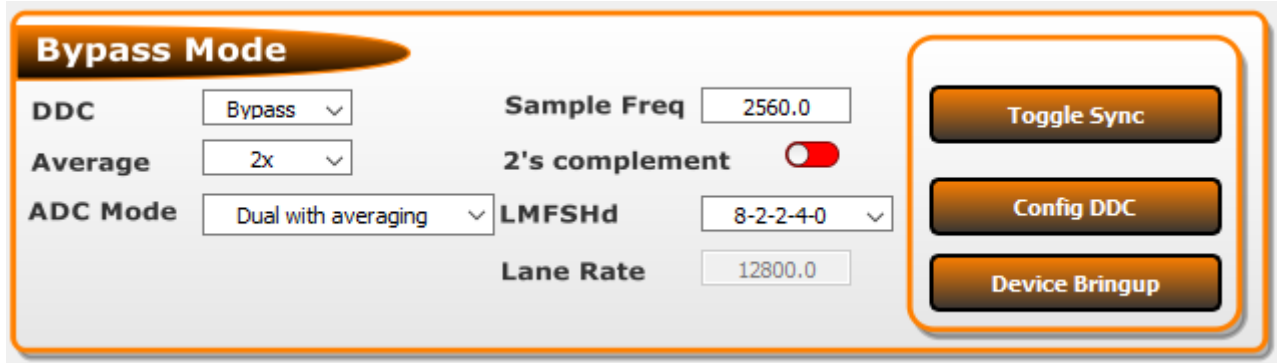

Figure 3-4. Bypass Mode Settings
1. In the bypass mode box of the GUI, make sure that the settings match those shown in Figure 3-4.